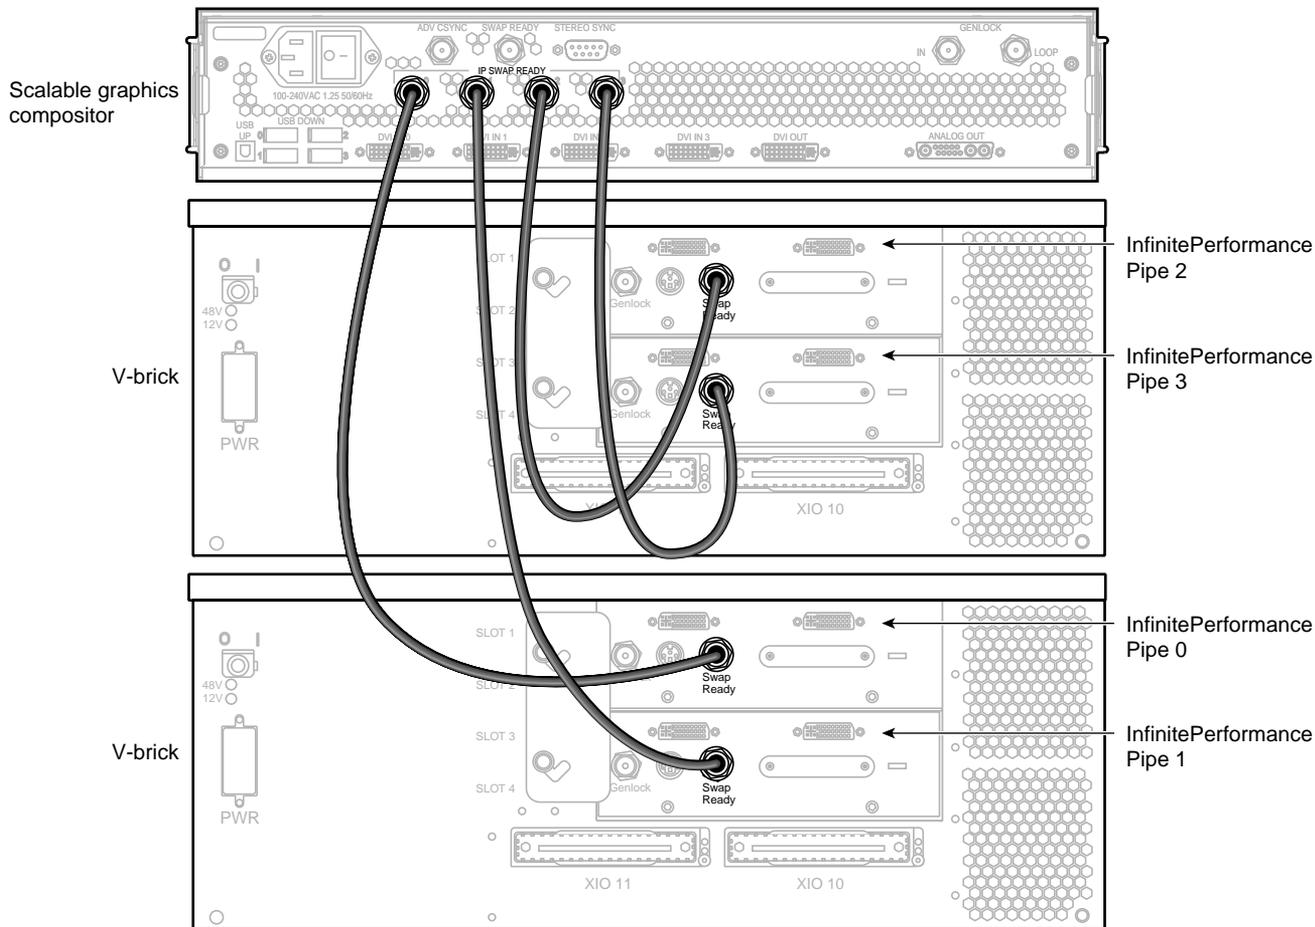

Figure 2-12 Connecting the Swap-Ready Connectors
- Using the 75-ohm BNC cables, connect the InfinitePerformance swap-ready connectors to the swap-ready connectors on the compositor in the following order (as shown in Figure 2-12): pipe 0 to IP SWAP READY 0, pipe 1 to IP SWAP READY 1, pipe 2 to IP SWAP-READY 2, and pipe 3 to IP SWAP-READY 3.